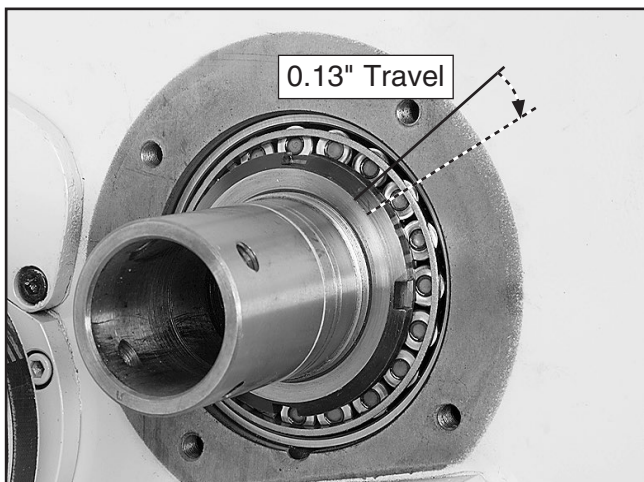

Figure 105. Example of final inner spanner nut travel.
11. To set the correct amount of spindle bearing preload, rotate the inner spindle lock nut clockwise an additional 0.13" along its circumference. See **Figure 105** for an example of this measurement.